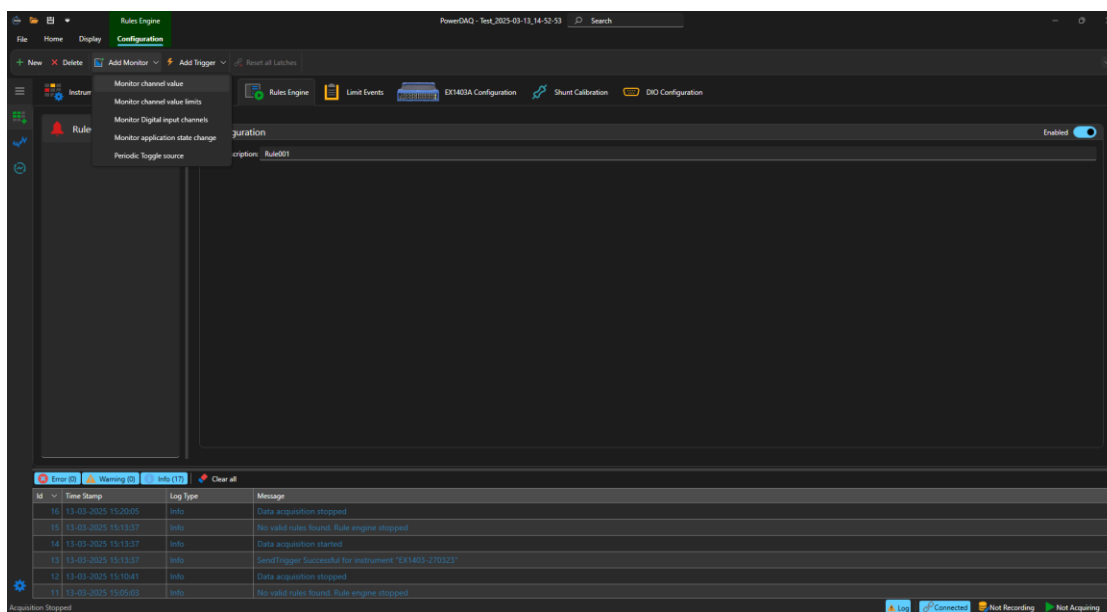
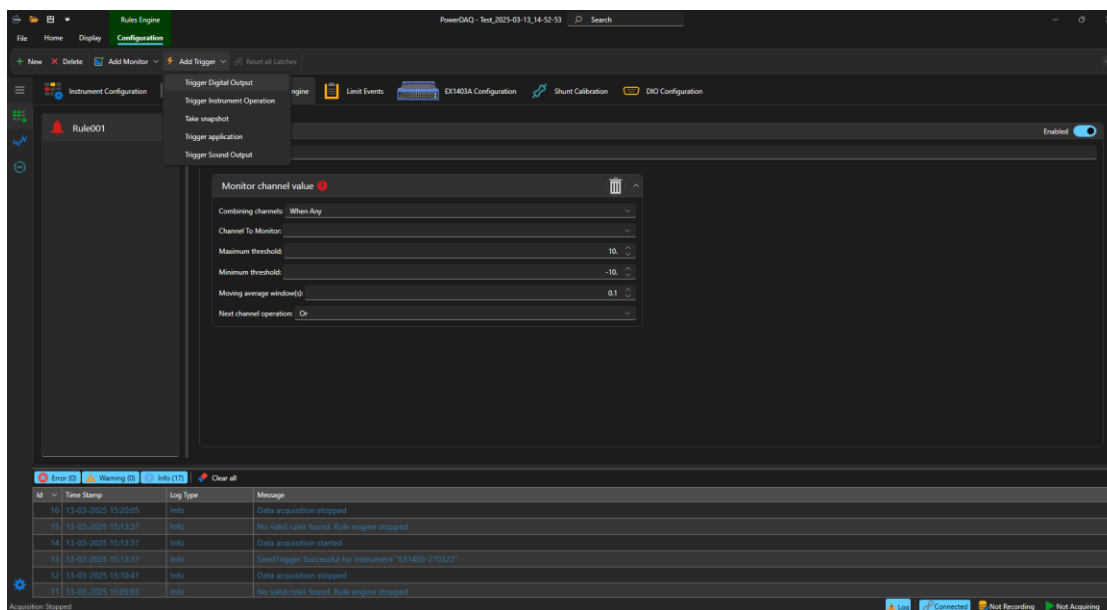
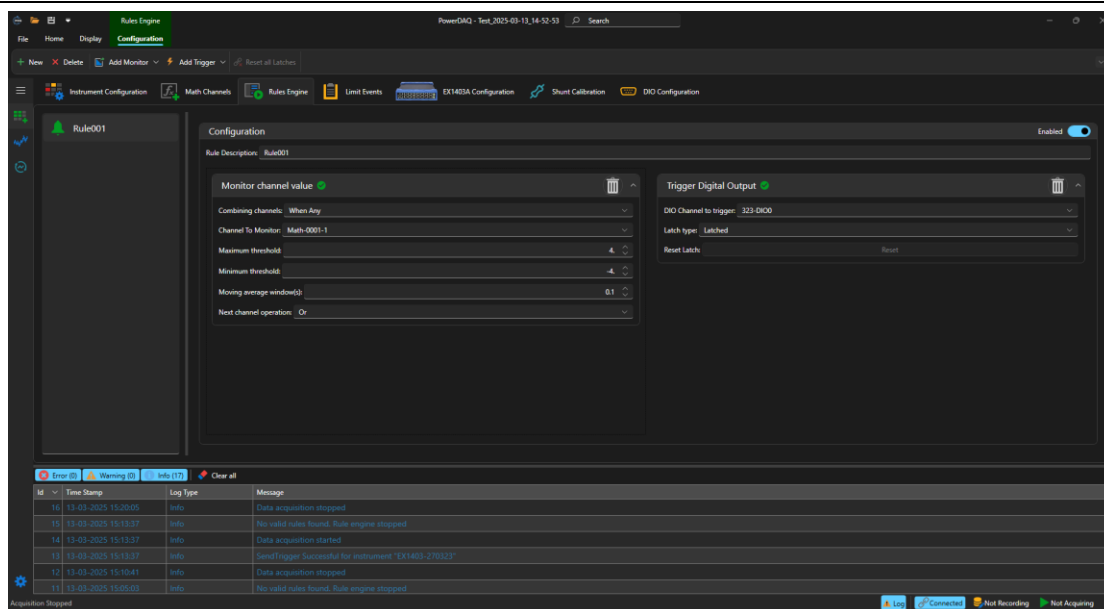

Figure 48. Add Monitor
Figure 49. Add Trigger
Figure 50. Configured Rules Engine
4. Add a **monitor and trigger options** for a rule. Refer to Figure 48, Figure 49, and Figure 50. Monitoring and trigger options can be combined.
5. Figure 48 and Figure 49 show an example of the **Monitor channel value** option with the **Take snapshot** trigger option.